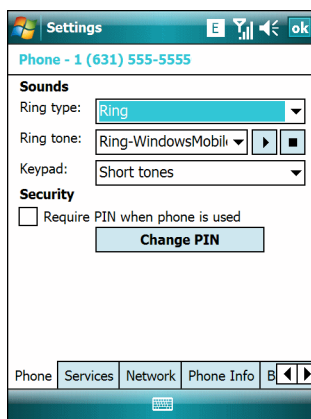

Figure 5-13 MC75 Phone Window - Phone Tab
1. From the **Phone** tab (Figure 5-13), select the **Require PIN when phone is used** check box under **Security**.
1. From the **Phone** tab (Figure 5-13), tap **Change PIN**.
1. From the **Phone** tab (Figure 5-13), deselect the **Require PIN when phone is used** check box.